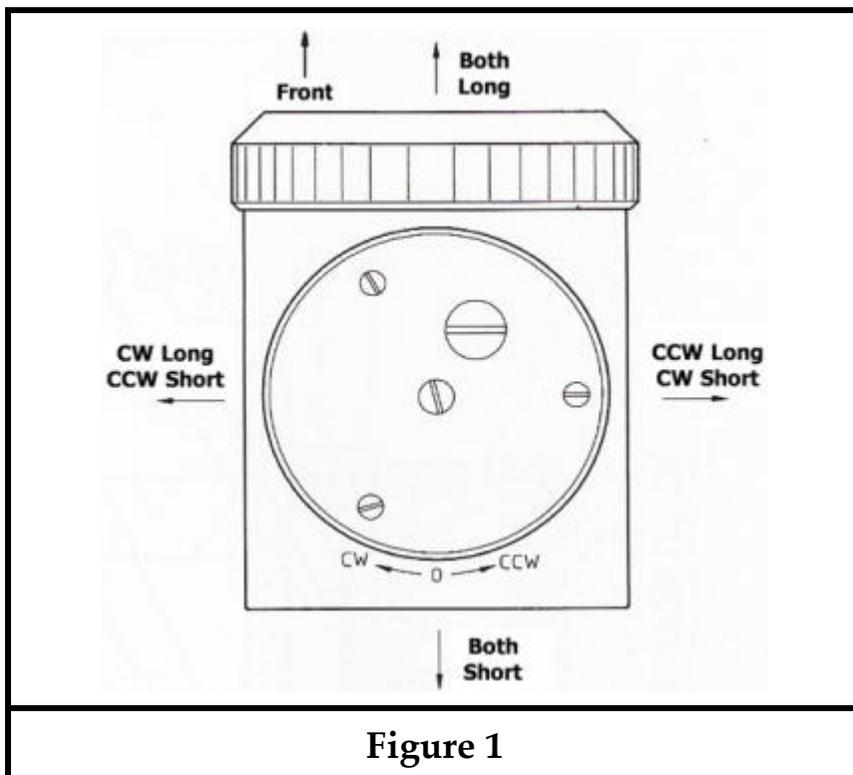

Figure 1
1. Notice which end of the range shows longer error, then move the drum assembly a little to one side or the other (see Figure 1) using the small Allen screws in the sides of the micrometer body. You may have to loosen the front or back Allen screw a bit to allow the drum assembly to move.
1. Notice whether the micrometer reads shorter or longer than the reference target graduations, then move the drum assembly a little to the front or back (see Figure 1) using the small Allen screws in the front and back of the micrometer body. You may have to loosen the side screws a bit to allow the drum assembly to move.